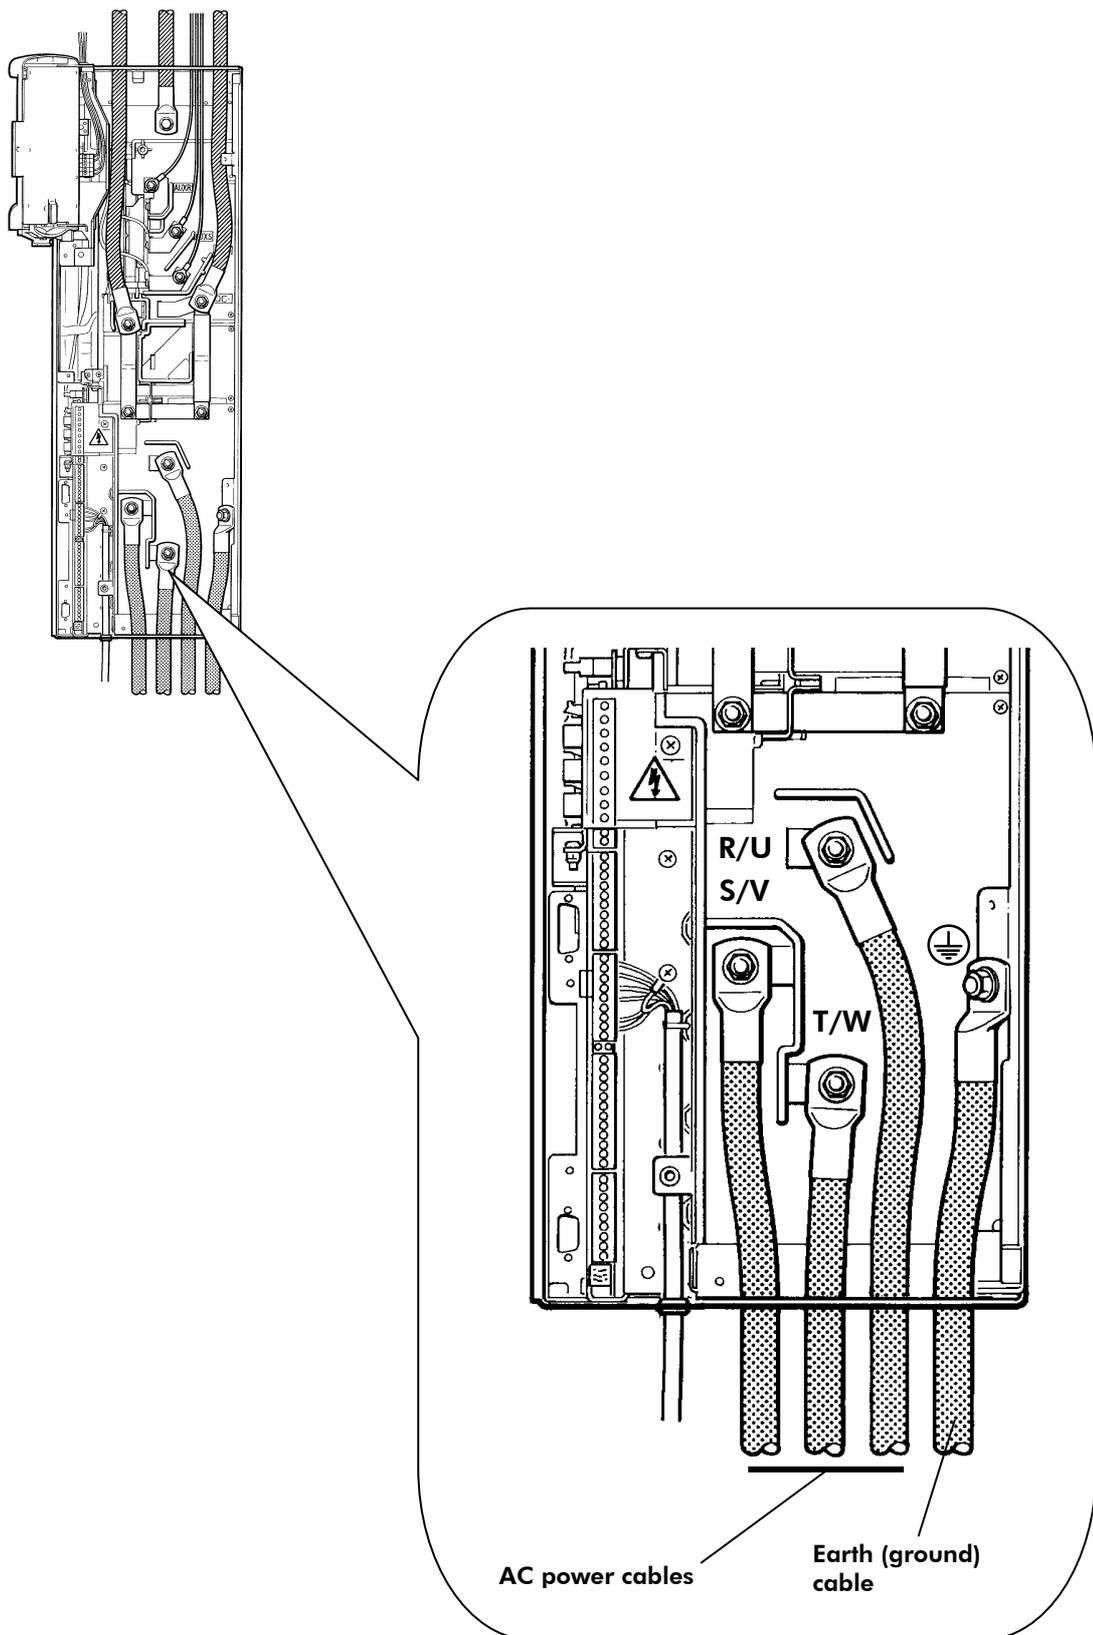

Figure 3-9 Power connections to frame sizes 3 and 4 (frame size 4 shown)
Frame sizes 3 and 4 have a similar connector layout. Figures 3-9 and 3-10 show details for frame size 4.
3.12.1 AC Power and Motor Cables (See Figure 3-9)